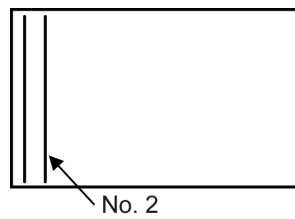

Fig. 1c
- a. Adjust the vertical line no. 2 to straight line (parabola) by EW-AMP 1. (Refer to Fig. 1c)